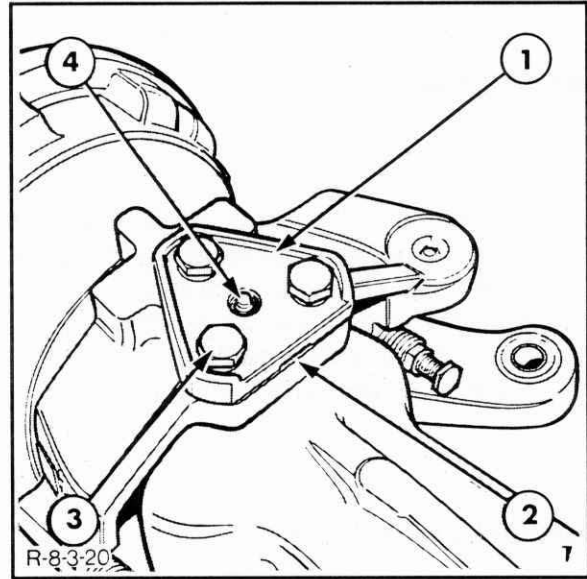
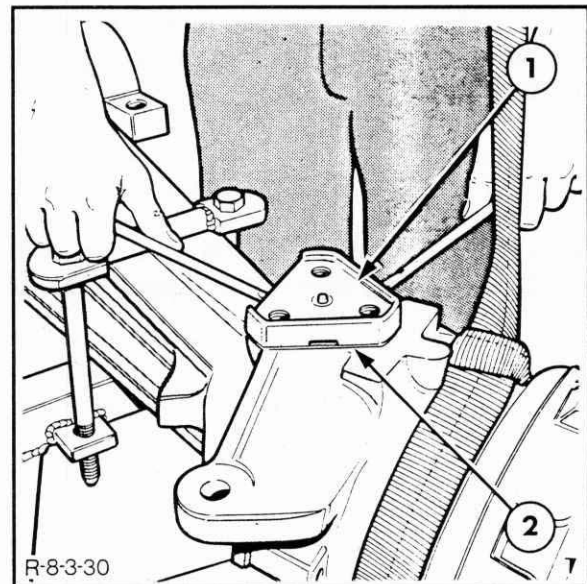

Figure 7-94
Figure 7-95
5. Remove the upper and lower swivel pin retaining bolts, Figure 7-94, and carefully level the swivel pins from the casing, noting the position of the shims. Identify the top pin and shims and the bottom pin and shims, Figure 7-95.